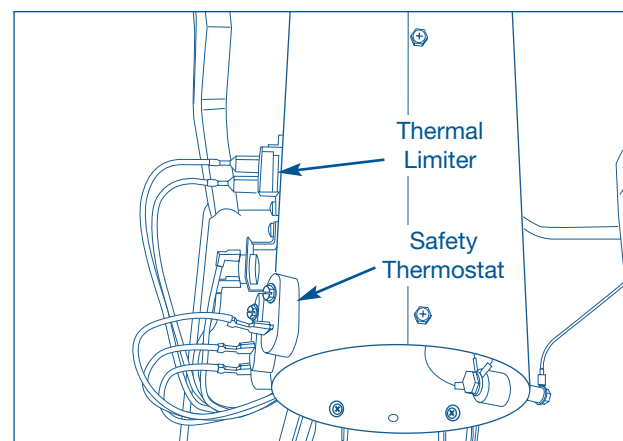

Figure 4-46.
3. Using a #2 square bit screwdriver, extract the two screws securing the thermistor mounting bracket to the heater assembly. (See Figure 4-46)